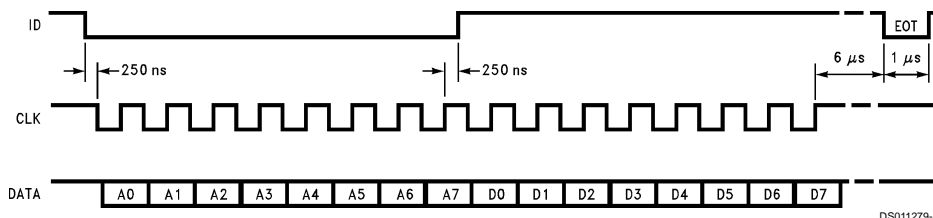

FIGURE 6. LMC1983's INTERMETAL Serial Bus Timing
The LMC1983 uses the INTERMETAL serial bus (IM Bus) standard. Serial data information is sent to the LMC1983 over a three wire IM Bus consisting of Clock (CLK), Data (DATA), and Identity (ID). The DATA line is bidirectional and the CLK and ID lines are unidirectional from the microprocessor or microcontroller to the LMC1983. The LMC1983's bidirectional capability is accomplished by using an open drain output on the DATA line and an external 1 kΩ pull-up resistor. The LMC1983 responds to address values from 01000000 (40₁₆) through 01000111 (47₁₆). The addresses select one of the eight available functions (see Table 1). The IM Bus' lines have a logic high standby state when using TTL logic levels. As shown in Figure 6, data transmission is initiated by low levels on CLK and ID. Next, eight address bits are sent. This address information includes the code to select one of the LMC1983's desired functions. Each address bit is clocked in on the rising edge of CLK. The ID line is taken high after the eight bits of address data are received by the LMC1983.